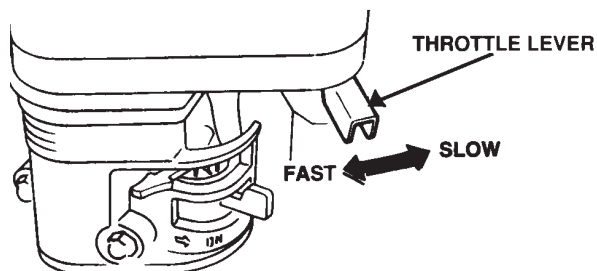

Figure 23. Throttle Lever
- Place the **throttle lever** (Figure 23) halfway between **FAST** and **SLOW** for starting. All sawing is done at full throttle. The engine governor speed is factory set to ensure optimum blade operating speeds.